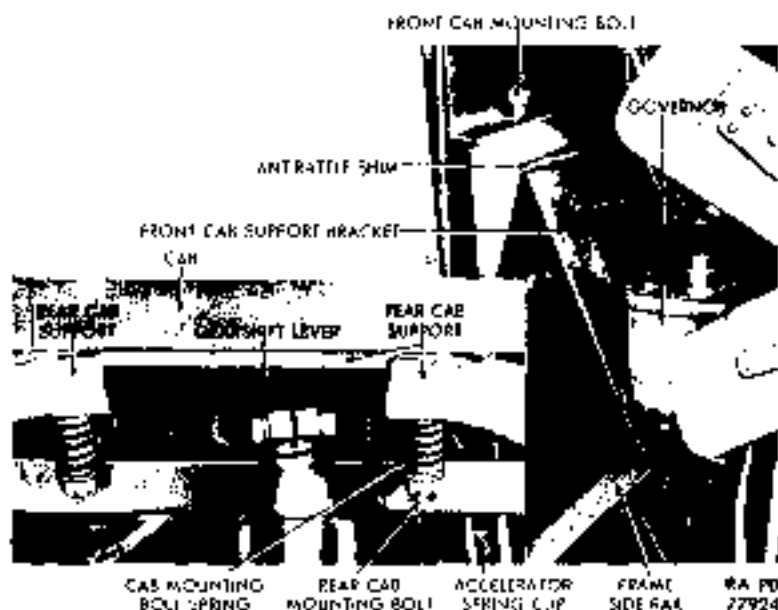

Figure 21 - Cab Attachment Points
- w. **Disengage Cab Front Support Brackets** (fig. 21). Remove the cotter pin, nut, lock washer, flat washer, spring, and bolt on each side which secure cab to support brackets. Procedure is identical on each of the two sides.
- z. **Disengage Rear Cab Support Bracket** (fig. 21). Remove the cotter pin, nut, two flat washers, two springs, and bolt on each side which secure cab to rear support brackets. Procedure is identical on each of the two sides.
q. Connect Cab to Cab Front Support Brackets (fig. 21). Install the bolt, flat washer, spring, toothed lock washer, nut, and cotter pin which secures cab on each side to support brackets. Procedure is identical on each of the two sides.
r. Connect Cab to Cab Rear Support Bracket (fig. 21). Install the bolt, two springs, two flat washers, nut, and cotter pin on each side which secures cab to rear support bracket. Procedure is identical on each of the two sides.